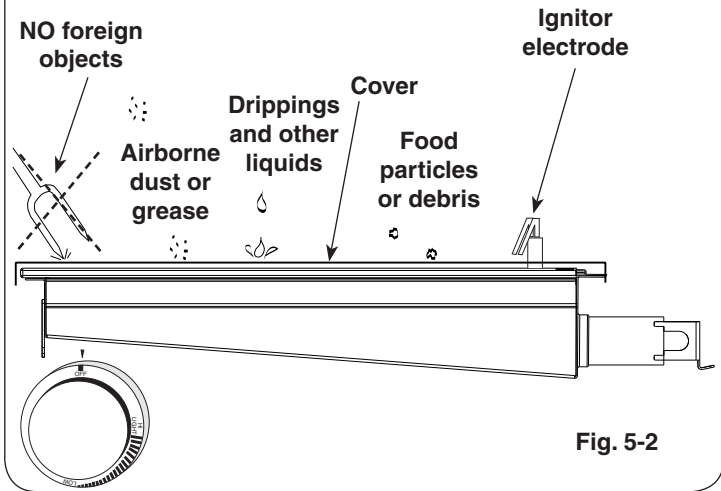

Fig. 5-2
- When not in use, **always** cover the infrared burner with the stainless-steel cover. This protects the burner from drippings (from other cooking), airborne particles, and foreign objects (Fig. 5-2).
- Do not strike or scratch the burner ceramic as it may chip, crack, or break (Fig. 5-2).